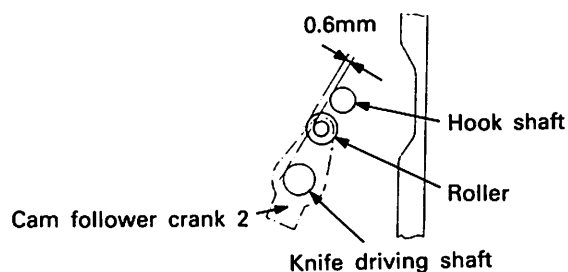

Fig. 10
Before operation, the standard position of the cam follower crank 2 is shown in Fig. 10. If this position has changed, e.g. after removing the stopper plate, adjust the position with the adjust bolt (Fig. 6) before taking the above adjustment steps (1) to (3).